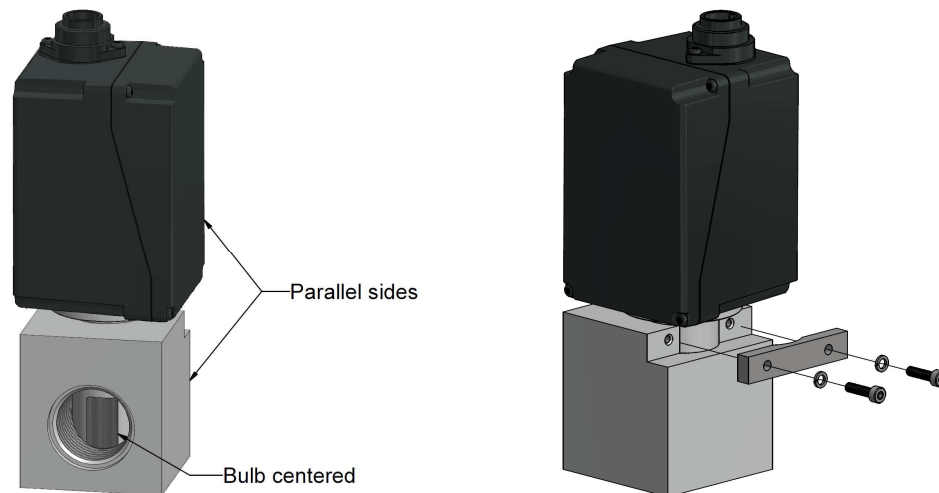

Figure 2: QRA75 Orientation and Clamp Installation
4. Push the barrel of the QRA75 flame scanner into the bore of AGG16.U that has a sealing O-ring. Twist the barrel to help slide the flame scanner through the O-ring as it is pushed in. Slide the QRA75 into the bore until it stops. Rotate the QRA75 so that the UV bulb is in the center of the threaded hole of AGG16.U as shown in Figure 2 below. This will be the case when the sides of the QRA75 flame scanner are parallel with the sides of AGG16.U.